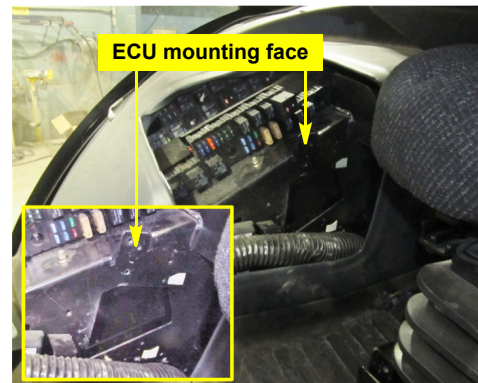

Figure 2a: ECU mounting location
- a. Locate the prepared ECU mounting points on the metal box frame inside the fender well compartment to the right of the driver's seat (Figure 2a with inset).